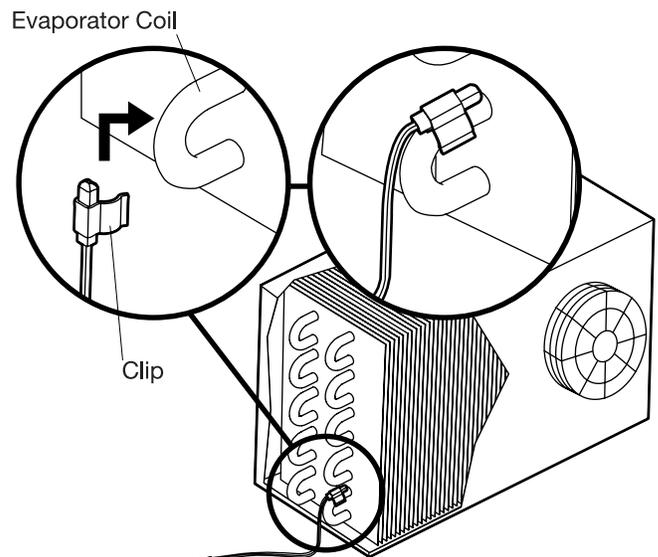

FIG. 6. Connect Thermistor Probe to Evaporator Coil
- For enclosure installations, cut the input lead so the connection will fit inside the enclosure, as shown in FIG. 6.
- Use the provided clip, as shown in FIG. 6. Clip the probe onto one of the lower coils in either the 10 o'clock or 2 o'clock position, making sure that the probe makes good contact with the evaporator tube.